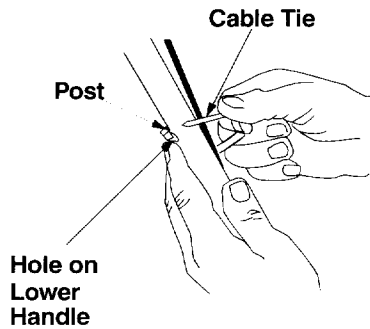

Figure 4
- Insert post on cable ties into holes provided on the lower handle. Pull the cable tie tight and trim the excess. See Figure 4.